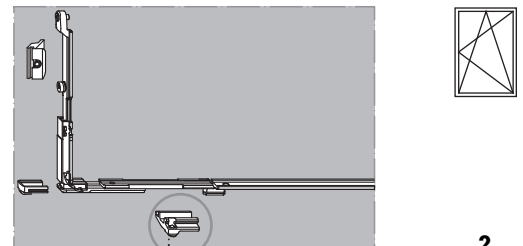

Fig. 5
- B** Tighten the cheese head screw on the guide piece so that it does not move (Fig. 5).
Adjust by screwing in or unscrewing the cheese head screw on the guide piece (Fig. 5).
Position RH/LH sash lift run-up block (2/3) on the tilt lock as shown and fix with grub screw (torque 1.5 - 0.25 Nm, 2.5 mm AF) (Figs. 5 and 6).